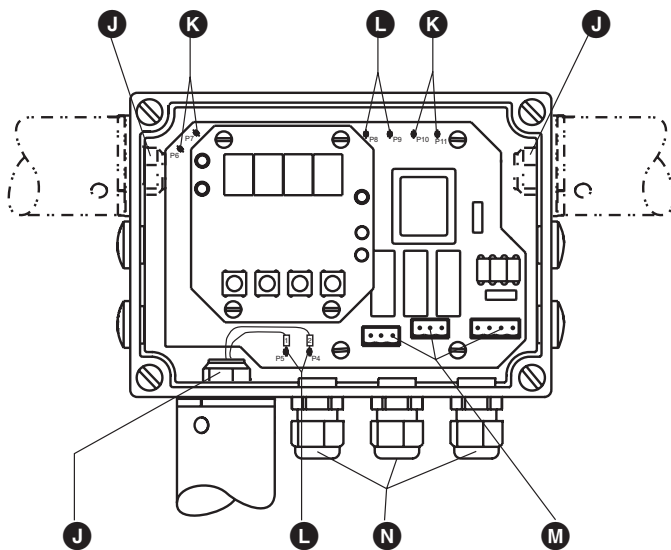

Fig. 4
1. Depending on the desired position of installation, unscrew the corresponding sealing plug **G** and screw it into the bore in which the electrode rod was previously screwed, **Fig. 4**.